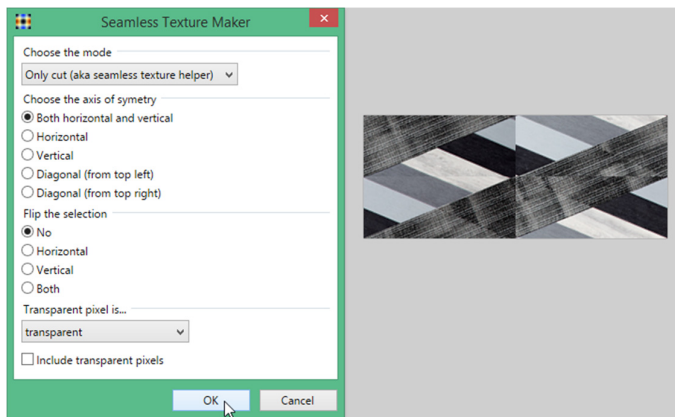

Figure 25—Use the Seamless Texture Maker to find the seams
8. For axis of symmetry, choose **Both horizontal and vertical** and make sure Flip the selection is set to: No (see Figure 25).